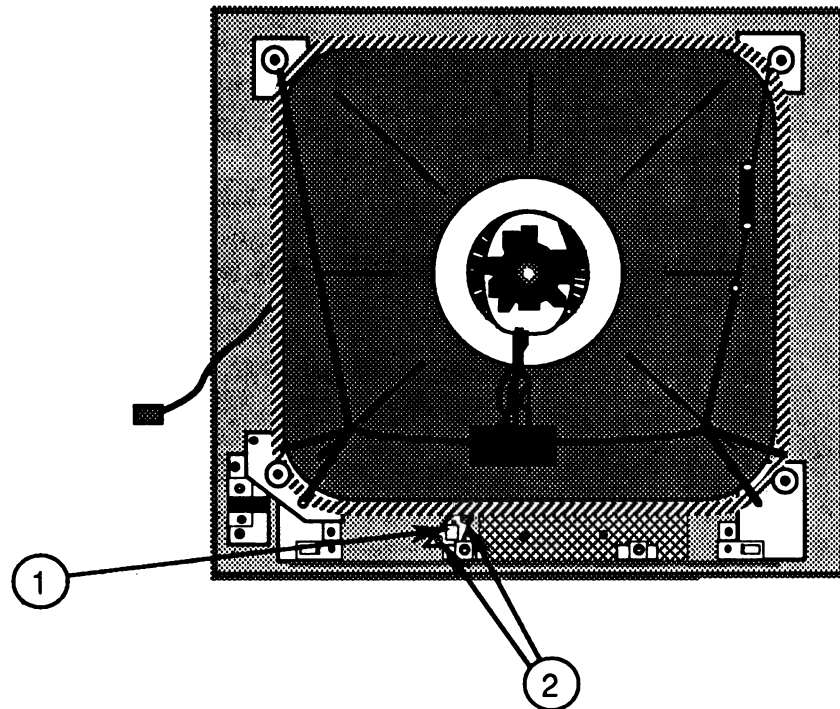

FIGURE 35
6. Locate the white-only switch (Figure 35, #1).
7. Remove the two screws (Figure 35, #2) that secure the switch plate to the front bezel, and remove the white-only switch.
2. Place the switch into the front bezel so that the plastic post protrudes through the hole in the switch plate (Figure 35, #1).
3. Replace the two mounting screws (Figure 35, #2).